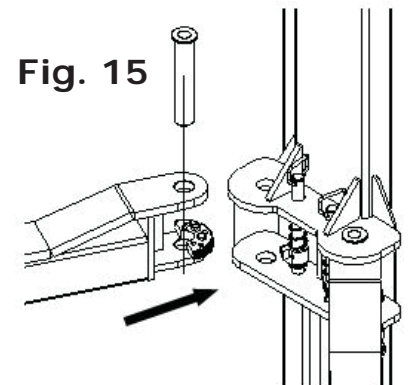

Fig. 15
7.14 Installation Of Arms (Ref. Fig. 15)